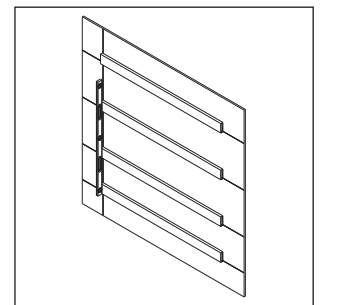

Figure 13: Ensure Plumb & Flat Tube Faces
- Use a level to ensure the tube faces are plumb to the wall and flat to each other within 1/16". Refer to **Figure 13**. If the tubes need Z-axis adjustment, add shims between the wall and the tube to adjust up to 1/2" maximum. Refer to **Figure 14**. Ensure the shims bear the full height of the tube as shown in **Figure 15**. Tighten down the hardware.